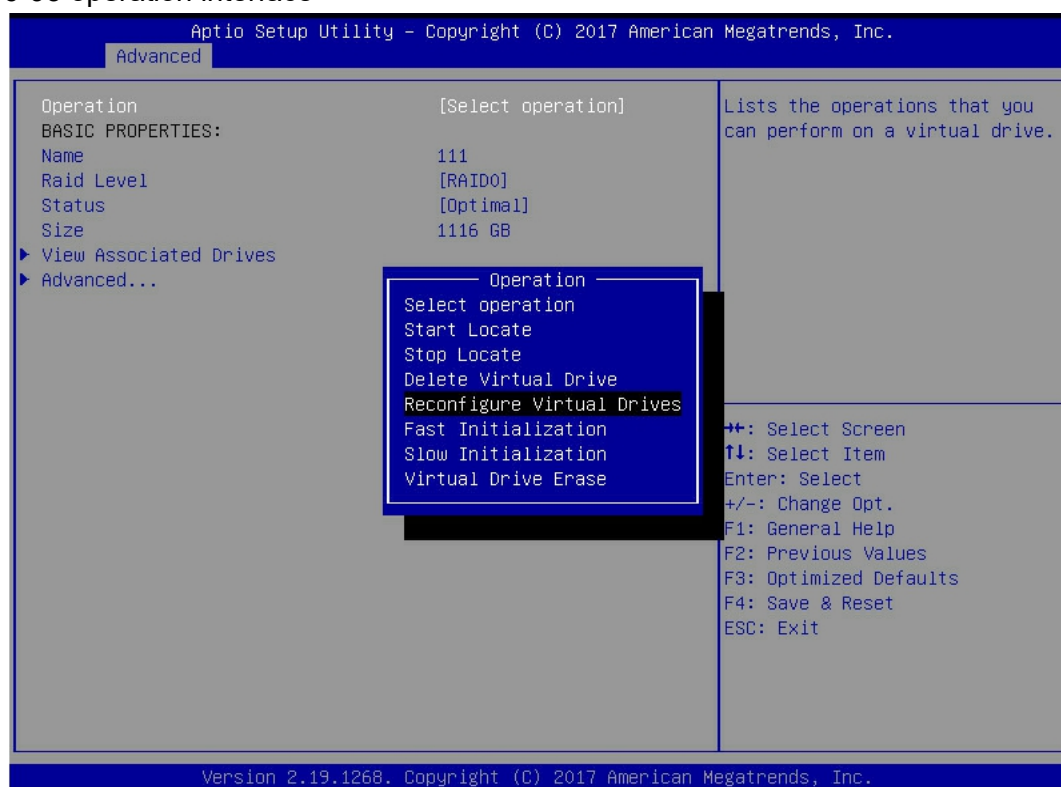

Figure 6-93
- c) Enter the interface shown in figure 6-93, select operation, press enter, and then select configure virtual drive in the pop-up dialog box, and press enter.
✧ Figure 6-93 operation interface